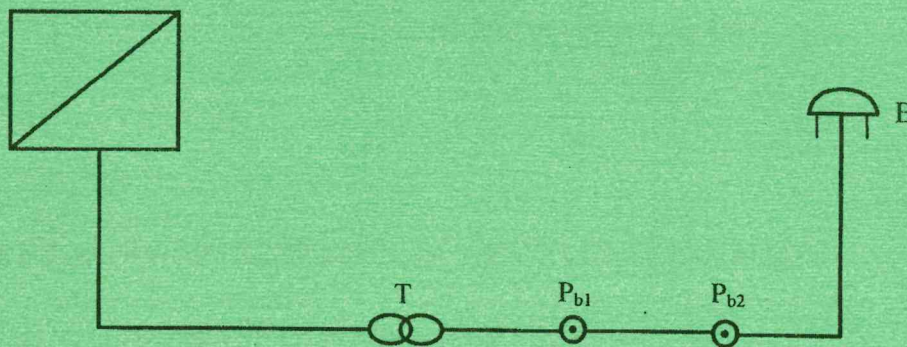

Fig. 2
- (c) Figure 2 is an installation schematic diagram showing an alarm controlled by two push buttons separately. Draw its wiring diagram. (4 marks)